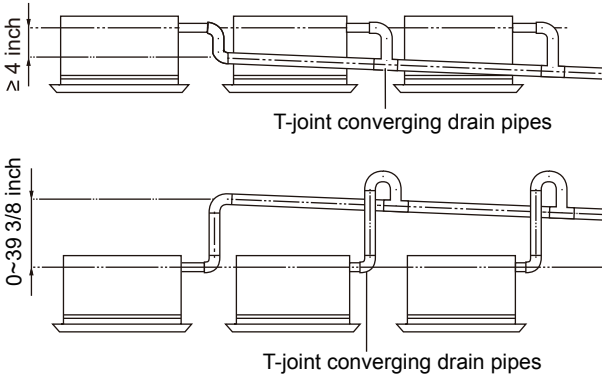

Fig.19
- (3). When unifying multiple drain pipes, install the pipes as Fig.19. Select converging drain pipes whose gauge is suitable for the operating capacity of the unit.(take the cassette type unit for example)